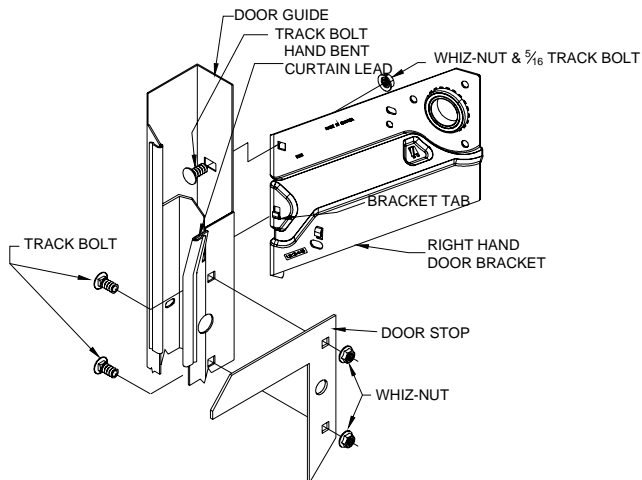

Figure 2.
4.1 Position the bracket tab on each bracket into the slot in the side guides and slide upward into place. Bolt the left and right door brackets to the door guides with one (1) 5/16" track bolt and whiz nut in each guide. See Figure 2. **MAKE CERTAIN BACK OF DOOR BRACKET AND DOOR GUIDES ARE FLUSH!!!** Loosely install door stops with (2) 5/16" track bolts and whiz nuts in each guide. Do not tighten at this time.